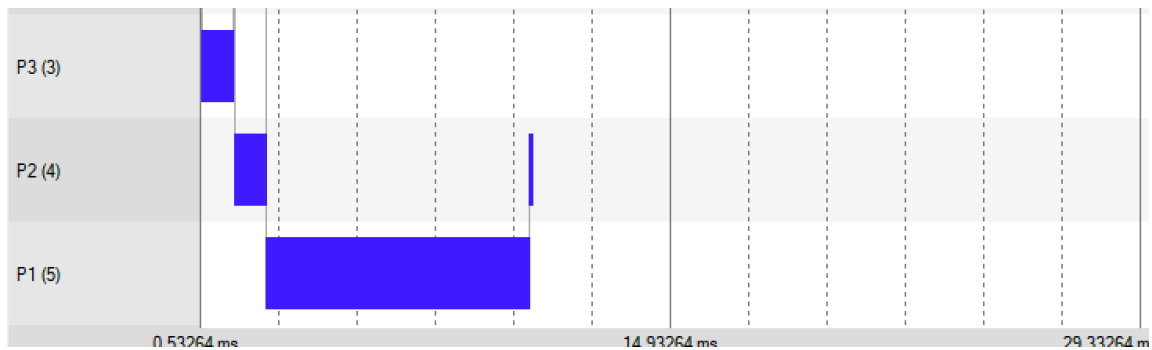

Fig 5: Inversion Example
18) Repeat Step 9, except add “priority\_inv.c” instead. Compile enter Debug mode and run simulation. Observe (Fig 5) and (Fig 6). NOTE: Inversion error.